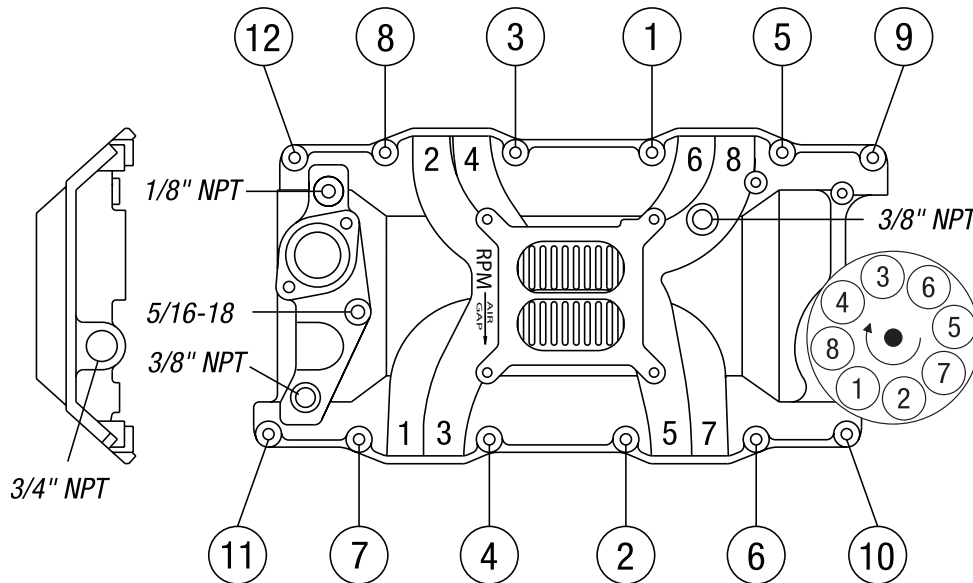

Figure 1 - 5.2-5.9L Chrysler Magnum Torque Sequence
6. Install the intake manifold and hold-down bolts. Torque all manifold bolts in two steps by the sequence shown in Figure 1 to 12 ft/lbs.